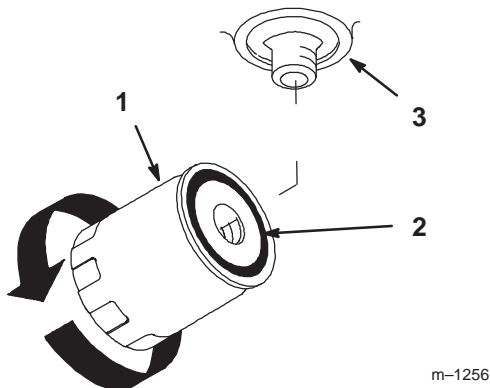

Figure 48
4. Apply a thin coat hydro fluid to the rubber gasket on the replacement filter (Fig. 48).
7. When fluid overflows filter turn the oil filter clockwise until the rubber gasket contacts the filter adapter, then tighten the filter an additional 1/2 turn (Fig. 48).